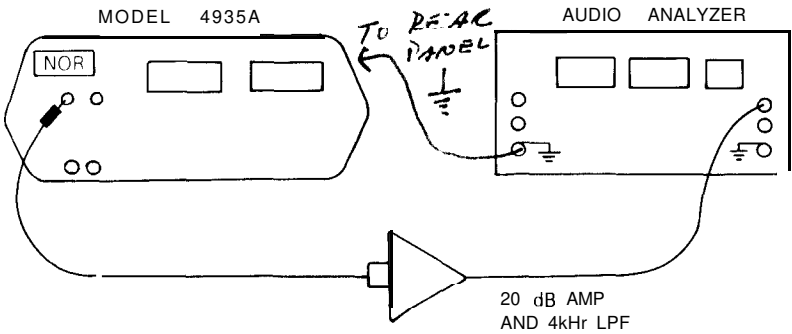
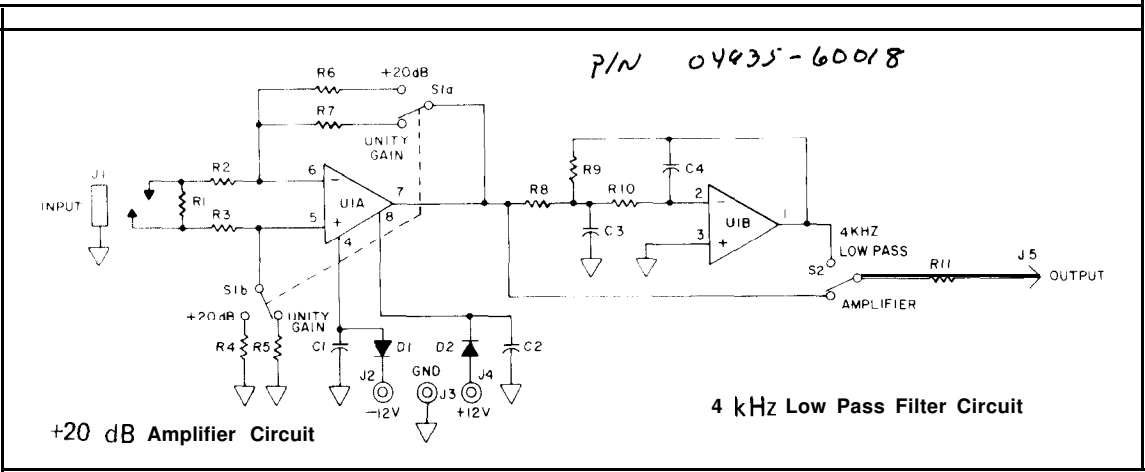

Figure 4-12. -40 dBm Distortion Test
Figure 4-13. Filter Circuits*
* see figure 4-13 for circuits
- 8. Connect an amplifier with +20 dB gain in the signal path as shown in Figure 4-12. The Power Supply should supply ±12 V to the +20 dB Amplifier and 4 kHz Low Pass Filter Board. See Figure 4-13 for the circuit and Table 4-14 for the Parts List.